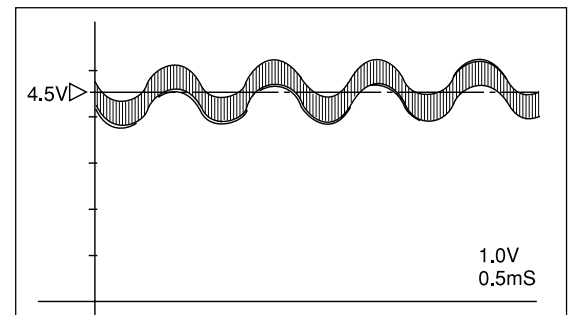

Fig. 6-1
2. Input specified signal to TP-202 (or receiving condition) and adjust L201 until TP-203 voltage becomes 4.5V \pm 0.2VDC. (Fig. 6-1)